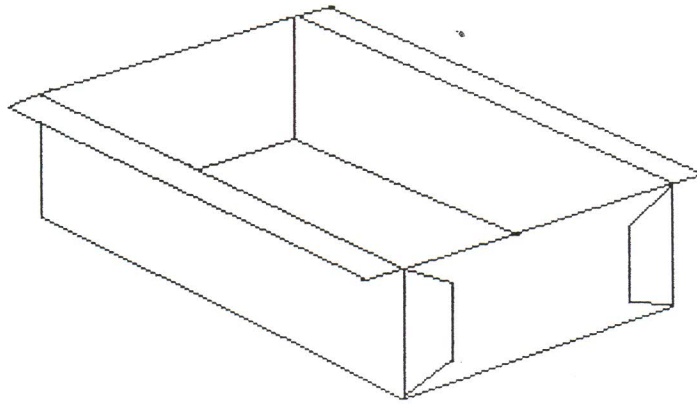

Figure 2 An isometric metal box.
8. In figure 2 below, showing an isometric view box. Indicate the corresponding numbers of bending sequence.